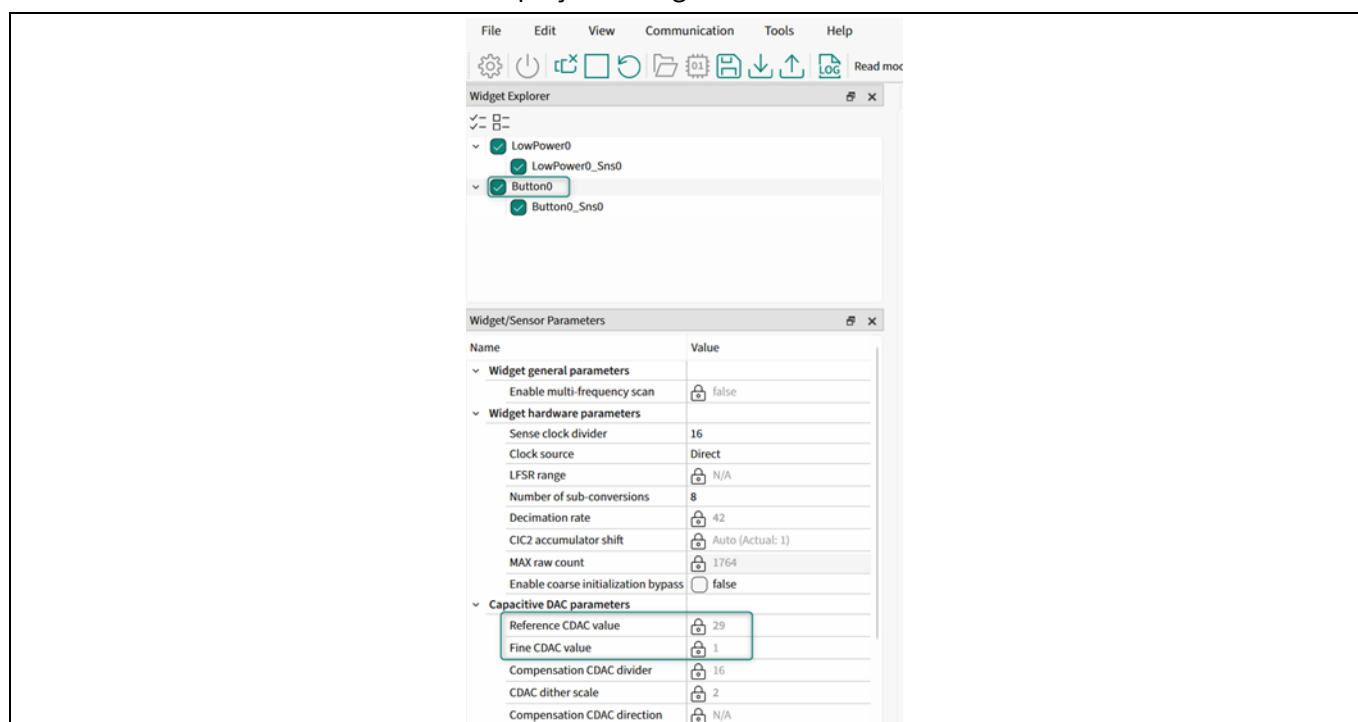

Figure 28 Applying CDAC parameters from the CAPSENSE™ tune
e) Set the Manual tuning mode only for Reference CDAC mode and Fine CDAC mode parameters. You can see the CDAC values observed in Figure 28 when CDAC was set to **Auto**